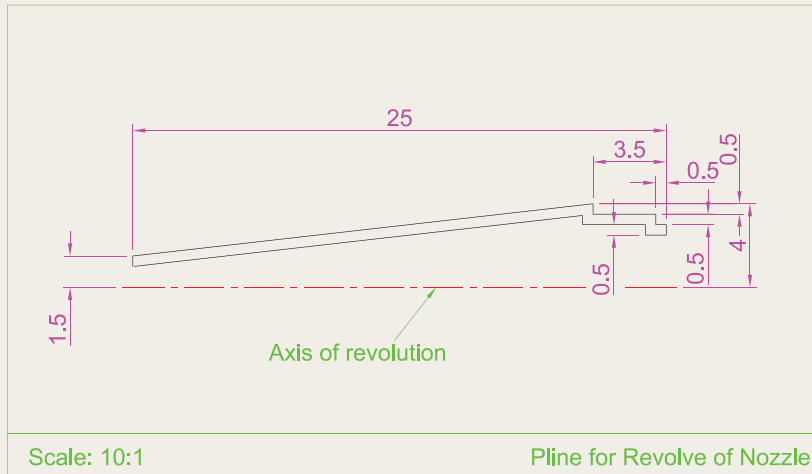

Fig. 12.51 Exercise 5
5. Figure 12.51 shows the outline from which a solid of revolution can be constructed. Use the **Revolve** tool from the **Home/3D Modeling** panel to construct the solid of revolution.